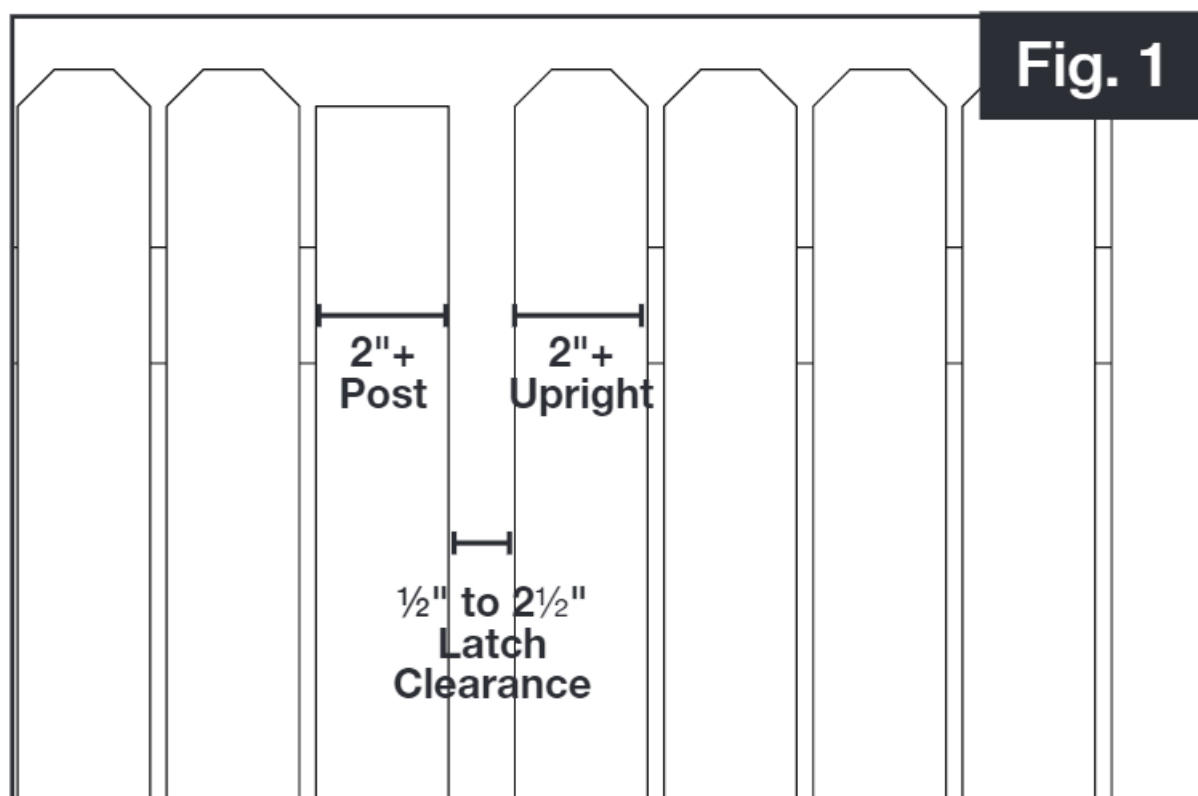

Fig. 2
a. With gate closed, align latch on post and mark screw locations (Fig. 2).